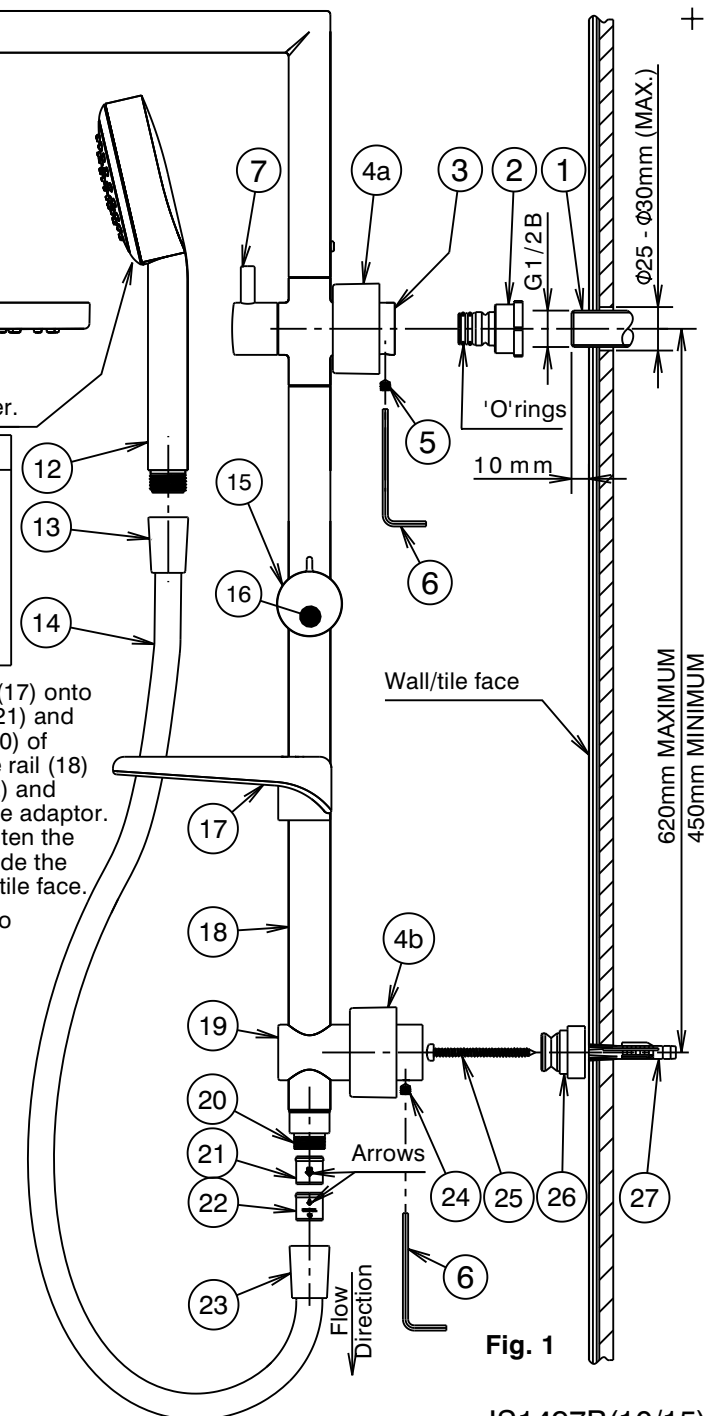

Fig. 1
- 3) Mark the position for the shower rail mounting base (19) at a suitable distance from the threaded nipple (1). (Fig.1)
- ii) Insert small end of wall plug (27) into drilled hole and tap until flush with surface.**CAVITY WALLS:-** (Villaboard/tile etc)
- ii) Insert small end of wall plug (27) into drilled hole and tap until flush with surface.
- 5) Fit chrome cover (4b) onto mounting bracket (19) then loosen grub screw (24) using 3mm allen key (6) & remove spigot (26) from mounting bracket (19). Pass the screw (25) through the hole in the spigot (26) as shown. Assemble screw (25) into wall plug (27) and tighten until spigot (26) is mounted securely against the wall/tile face.